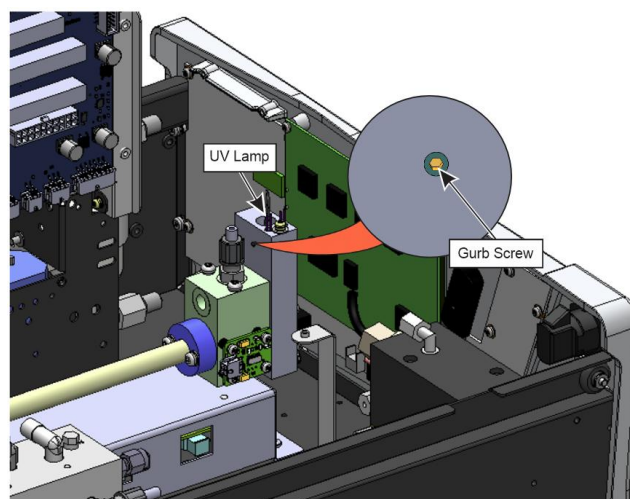

Figure 172 – Location of UV Lamp Securing Grub Screw
4. Loosen the grub screw (1.5 mm hex key) located in the centre of the lamp block (refer to Figure 172) securing the UV lamp and slowly pull the UV lamp out of the block.